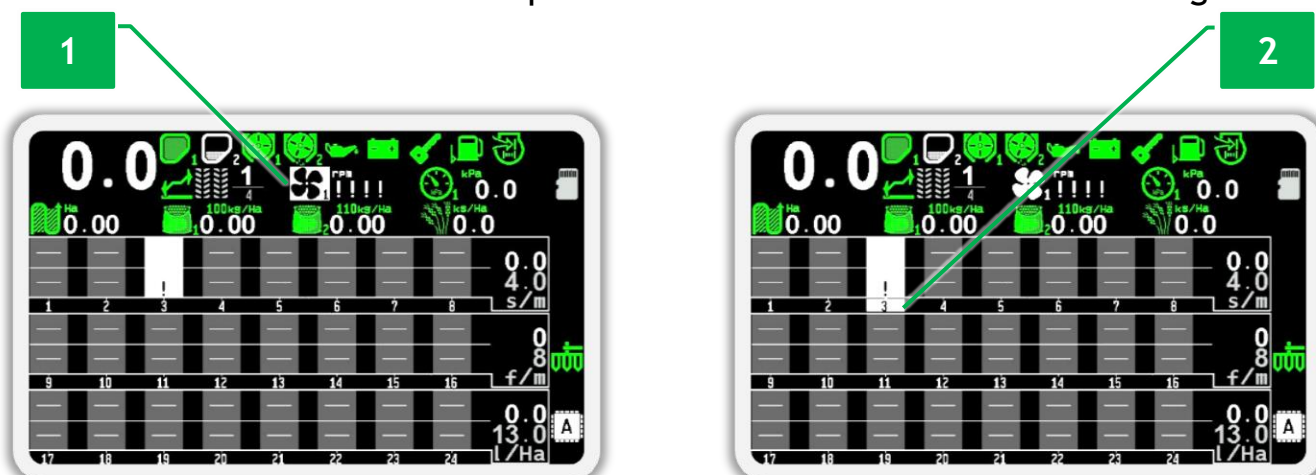

Figure 51 Example of selected sensors: 1 - selected fan sensor; 2 - selected seed sensor #3 (the sensor number is displayed on a white background)
- Press the  “Down” or  “Up” button until the sensor removed from control is selected. Examples of selected sensors are shown in Figure 51.